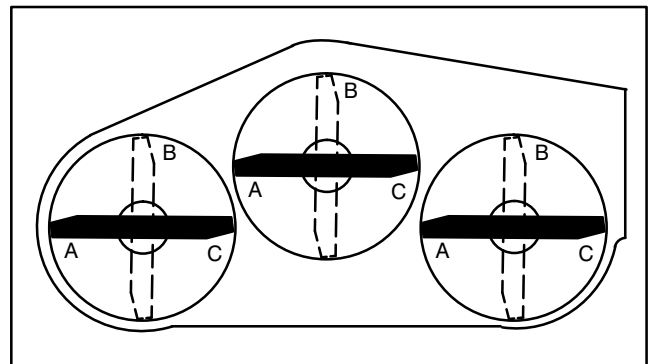
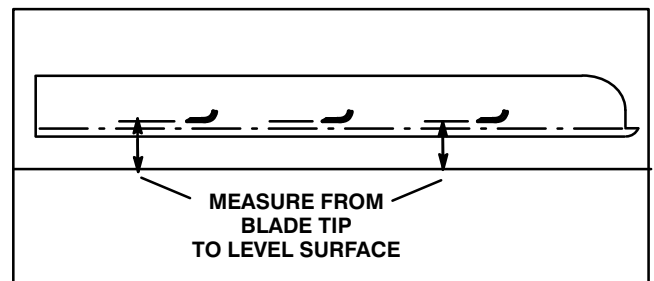

Figure 34
Figure 35
(Fig. 34–35)
5. Position all three blades in the “A” position (Fig. 34) and measure from level surface to the bottom of the tip end of each blade (Fig. 35).
6. Note measurement attained at “A”, rotate blades to “B” position (Fig. 34), measure distance of all blades to level surface and note dimensions (Fig. 35).
7. Rotate blades to “C” position, measure and note distance measured (Fig. 34, 35).